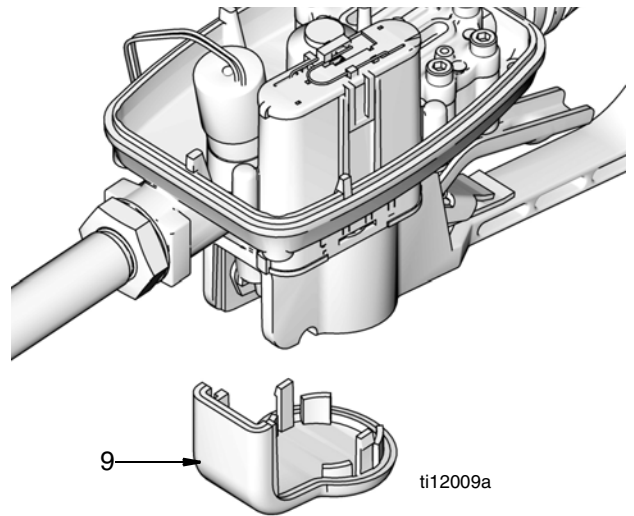

FIG. 36
- Remove guard (9) by inserting your thumb or finger behind the cover and pry it loose. Then slide guard down and out of groove on housing (FIG. 36).